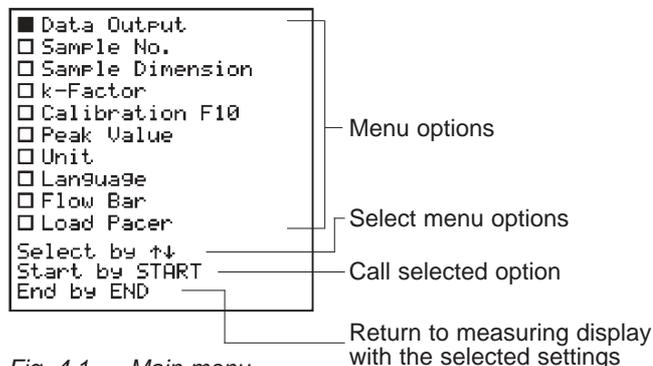

Fig. 4.1 Main menu
*Press the "**MENU**" key to return to the main menu (see Fig. 4.1).*